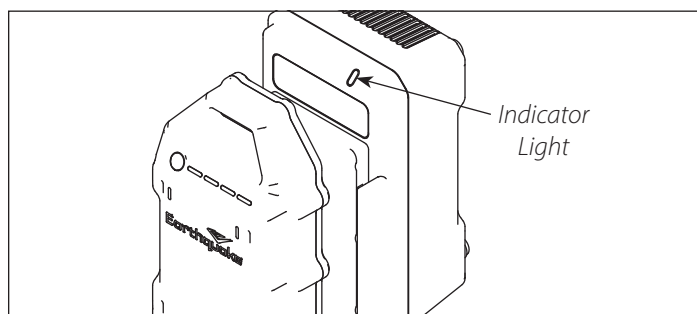

Figure 7
3. The charge indicator light should blink green. **SEE FIGURE 7**